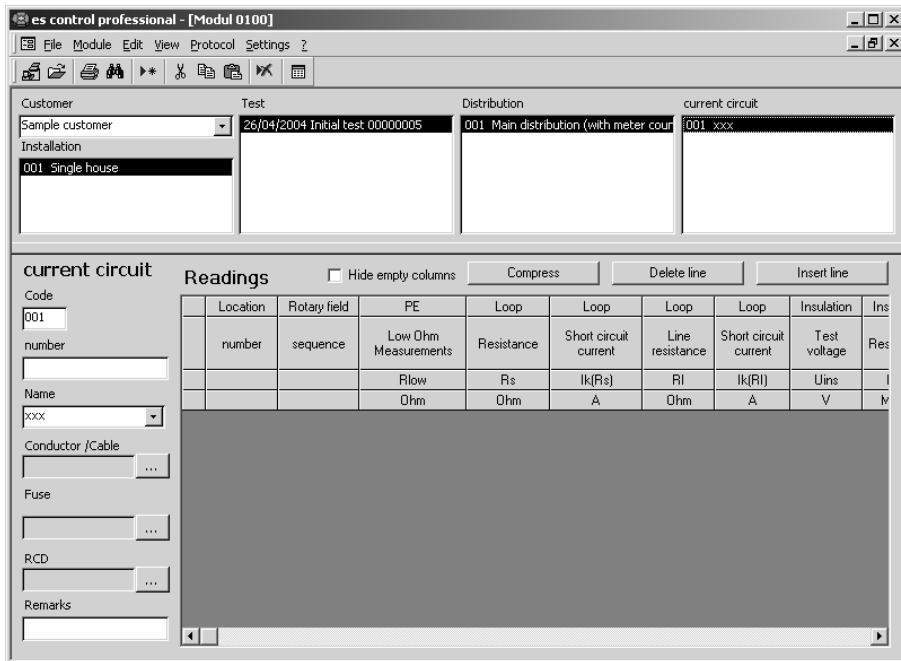

Figure 5.18: Add record for current circuit
- ▶ Create a new data record using the “Data record | Add” menu command or use the context menu, which may be accessed by clicking the right mouse key. A new current circuit “001 xxxx” is created at the “Counter Cabinet with ...” distributor for the new installation within “Installation 1” for “Customer A”. The new distribution data record is displayed as shown in Figure 5.18.